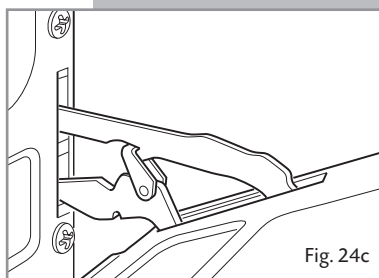

Fig. 24c
- Lift the oven door slightly. The notch on the bottom of the hinge will disengage (fig. 24c).